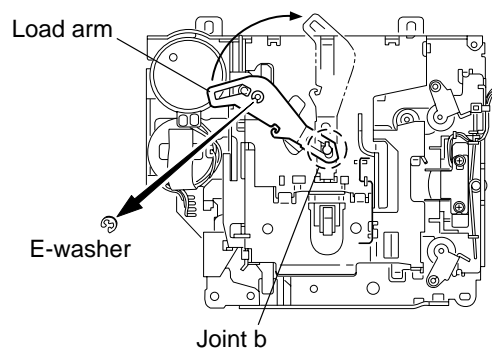

Fig.3
■ Removing the load arm (See Fig.3)